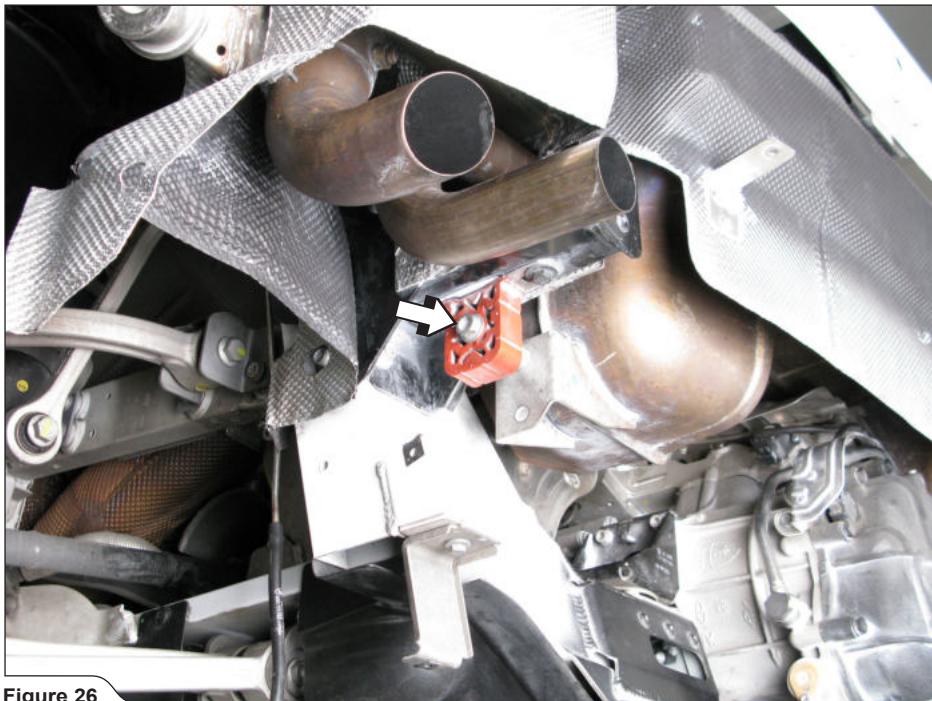

Figure 26
19. Unscrew the marked bolts on both sides of the muffler and carefully remove the muffler off the vehicle (**Figure 26, 27**).